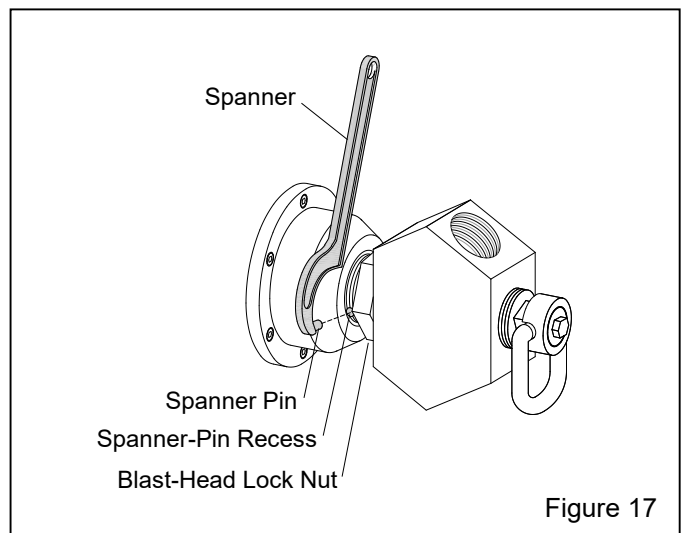

Figure 17
7.3.1.2 To remove the head, loosen the blast-head lock nut and turn the head counterclockwise (when viewed from the head end of the tool). Note: If the axle turns with the head, insert the spanner's pin into the recess (between the lock nut and front housing), as shown in Figure 17 and use the spanner to hold the axle while turning the head counterclockwise to remove.